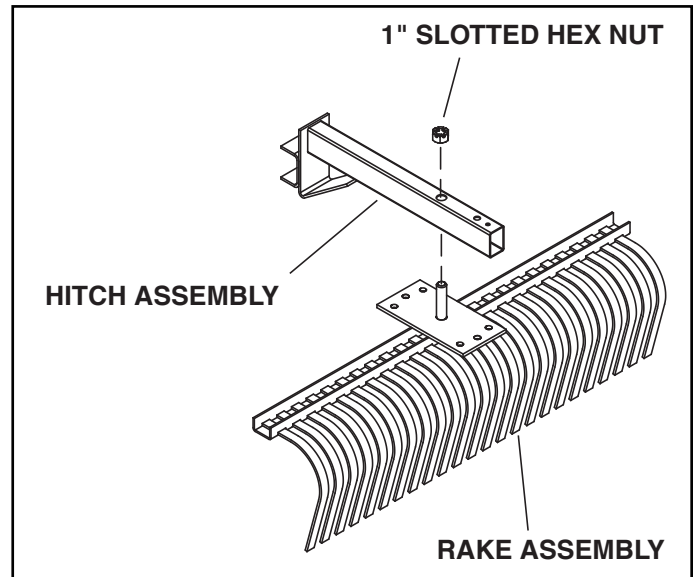

FIGURE 2
- Align the hitch assembly (pointing in direction shown) and the rake assembly. Place the hitch assembly down onto the threaded stud on the rake assembly and install the 1" slotted hex nut onto the threaded stud. Tighten the nut until it is just snug. See figure 2.